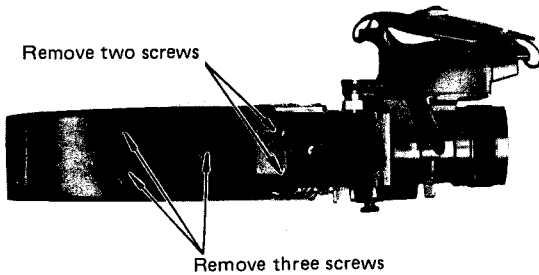

Fig. 3-3-1
- o Remove three screws which hold the shoulder pad and remove the shoulder pad. (Fig. 3-3-1)
- o Remove two screws which hold the lower panel and remove the lower panel. (Fig. 3-3-1)